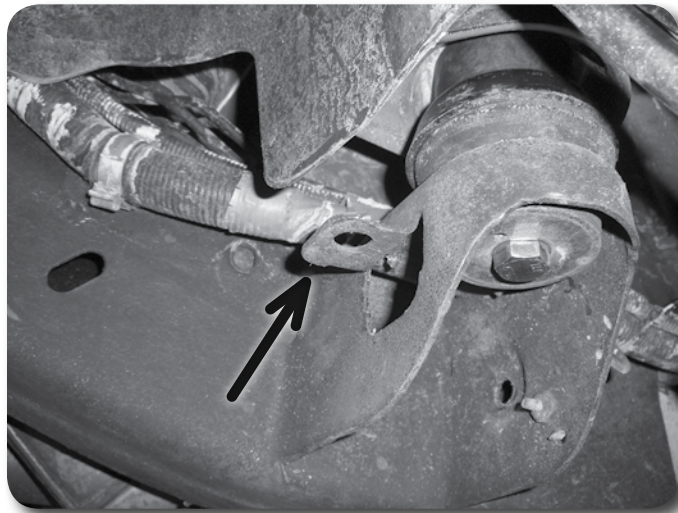
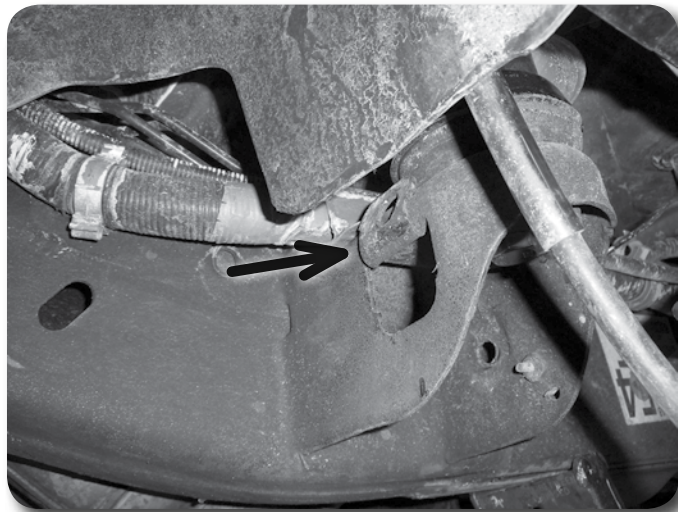
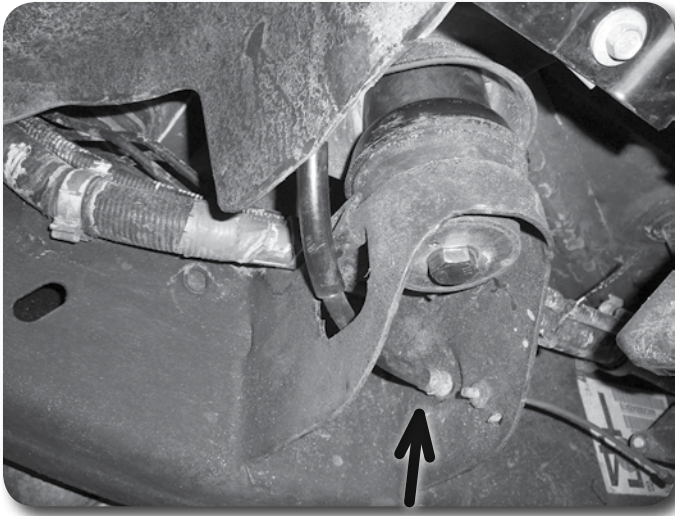

Figure 32A
Figure 32B
Figure 32C
61. Locate the tab on the driver's side body mount where the parking brake cable runs through it. **Figure 32A** Bend the tab up flat against the mount to gain slack for the cable. **Figure 32B**. In some cases it may be necessary to cut off the tab flush to gain adequate slack. Run the cable back through the mount into its original location. **Figure 32C**